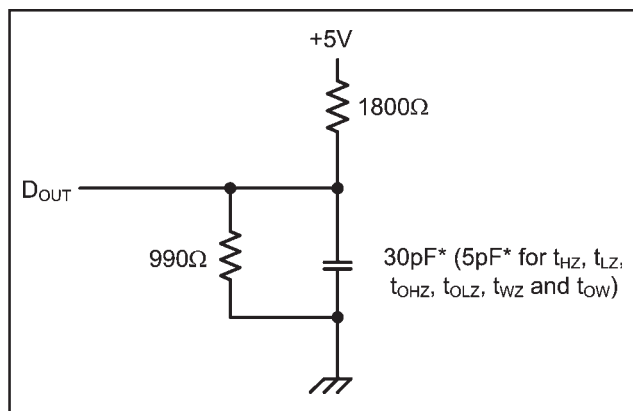

Figure 1. Output Load
- 8. Transition is measured ± 200 mV from steady state voltage prior to change, with loading as specified in Figure 1. This parameter is sampled and not 100% tested.
Output Load	See Figures 1 and 2